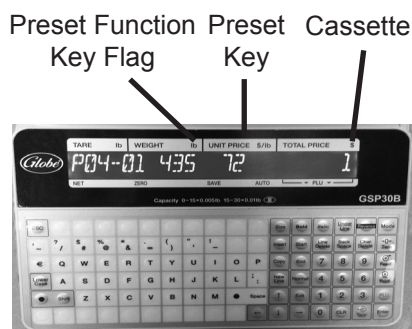

Figure 12-5
8. Key in Cassette number. Press the desired preset key. See Figure 12-5.